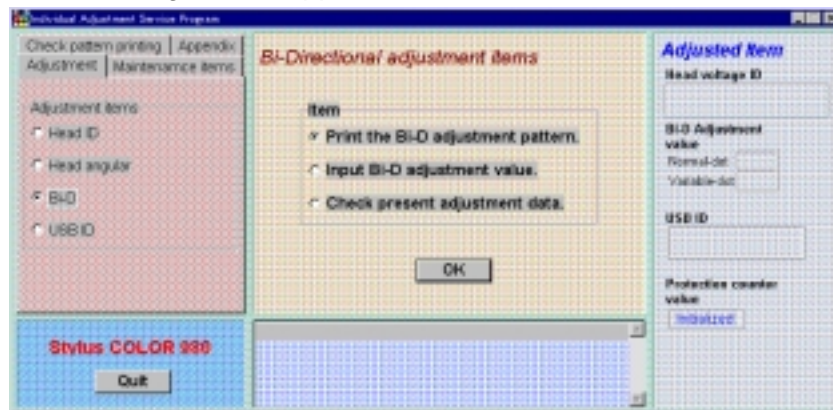

Figure 5-8. Bi-Directional Adjustment Screen
10. Click “Previous” to return to the Bi-Directional Adjustment Screen (Figure 5-8).
16. Click “Previous” to return to the Bi-D Adjustment screen” (Figure 5-8).
17. To execute the adjustments, press the ESC key 2 times. The printer turns off and back on in an instant and the adjustment values are stored in the EEPROM. If you need to check the adjustment results, perform the A4 normal paper printing.